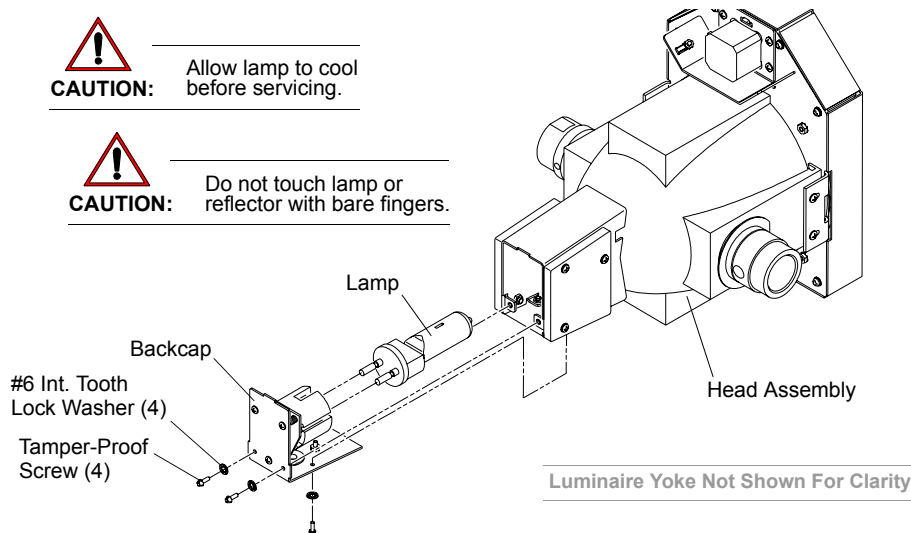

Figure 4-1: Replacing Lamp
- Step 2. At backcap, remove four tamper-proof screws and lock washers (**Figure 4-1**).